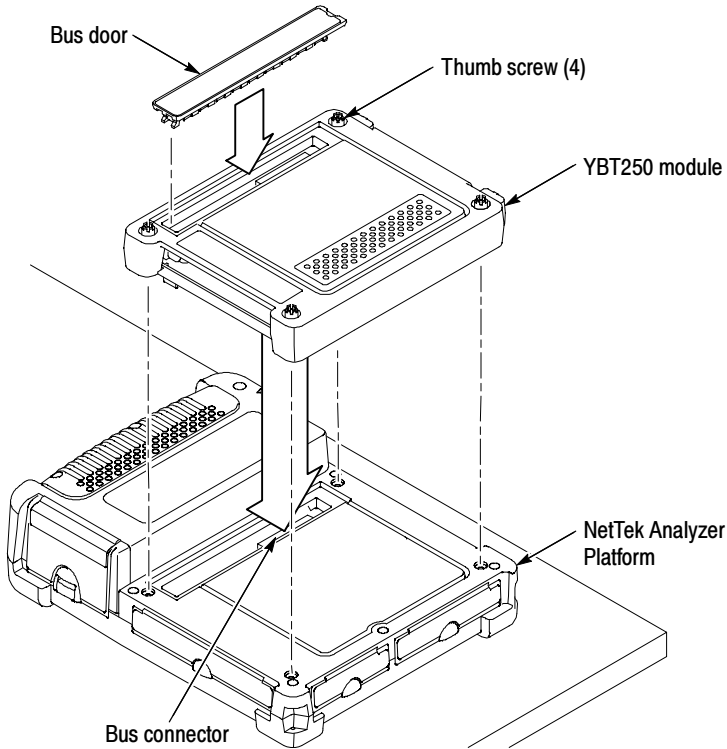

Figure 1-3: Attaching the YBT250 module
6. Carefully lower the YBT250 module onto the NetTek Analyzer Platform to engage the bus connectors. See Figure 1-3.
8. Locate the thumb screws. See Figure 1-3.